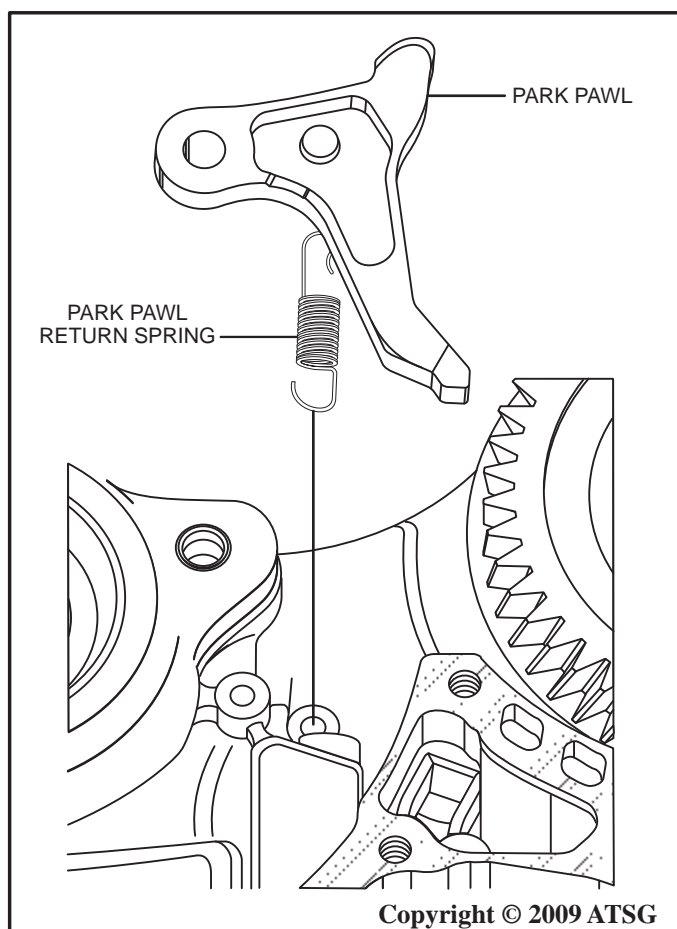

Figure 37
49. Remove the park pawl return spring from the park pawl and remove from the case as shown in Figure 37.
50. Remove the park pawl from the case as shown in Figure 37.